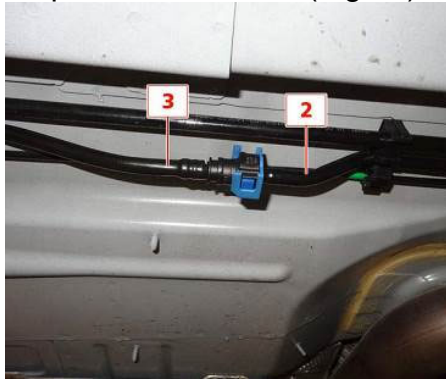

Fig.34
30. Attach the new tank delivery line (3) to the new body delivery line (2) and snap the lock closed. (Fig.34)